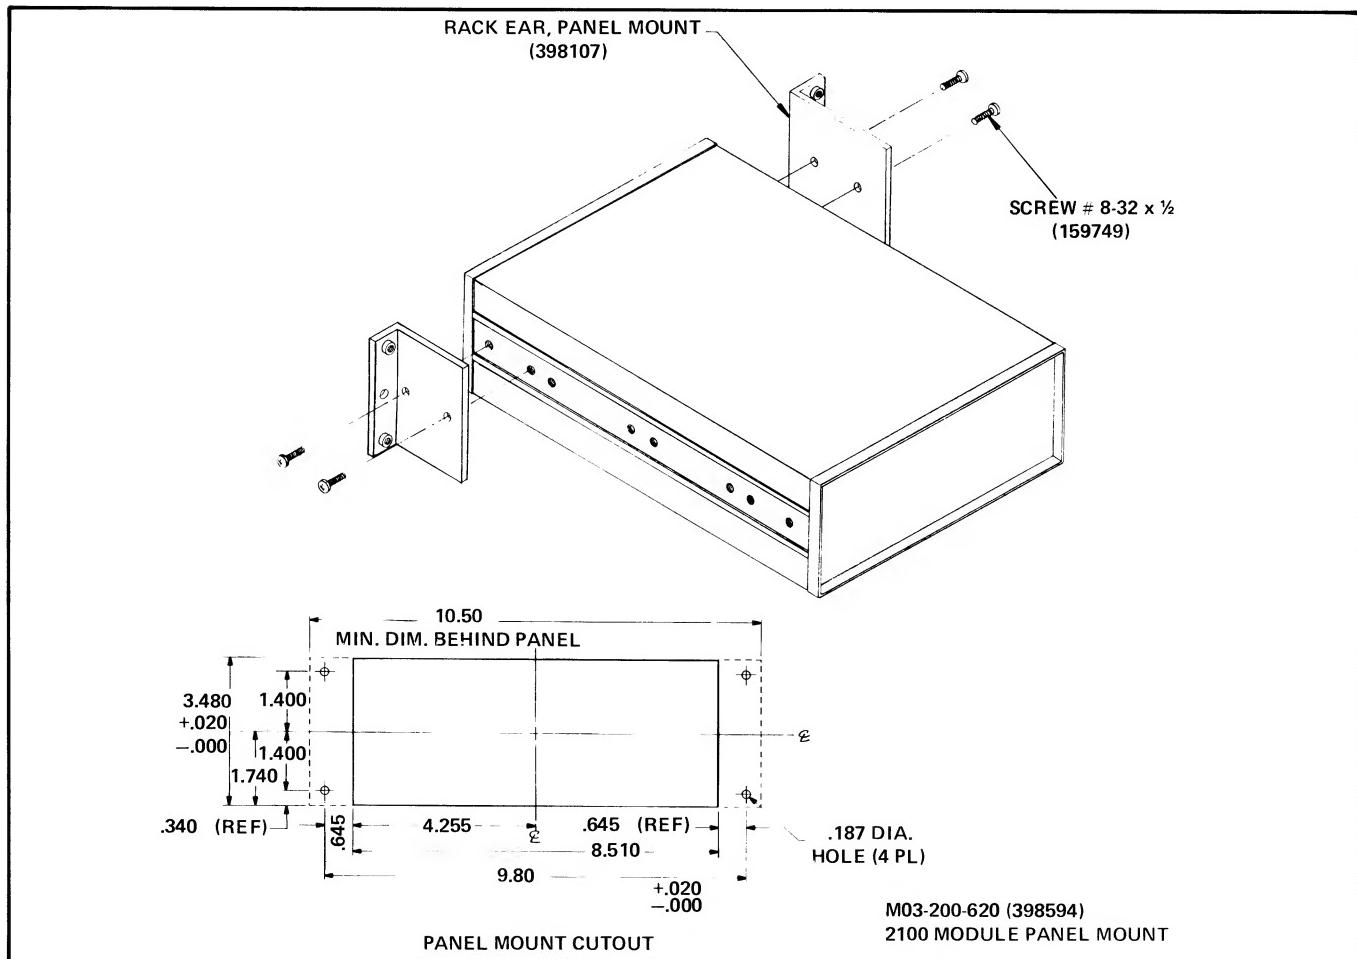

Figure 6-4. PANEL MOUNTING
6-15. Prepare the cutout in the panel as indicated in Figure 6-4. Insure that the dimensions given for the cutout are followed precisely. Install the 2100A in the panel as follows:
- c. Position the panel mount rack ear against the side of the chassis as shown in Figure 6-4 and secure it in place with two screws. Repeat on the opposite side.